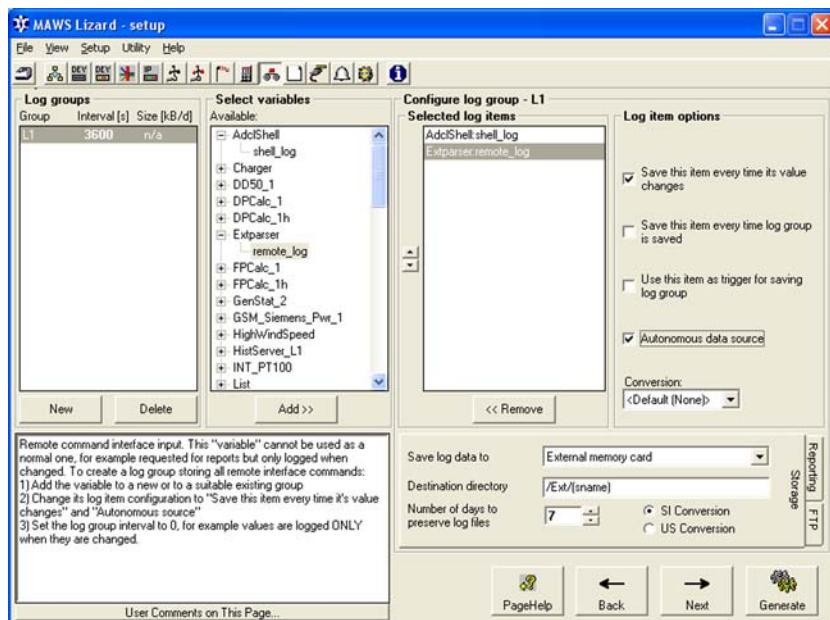

Figure 57 Logging View: Defining User Interaction Log
1. Create a new log group as shown in Figure 57 on page 134. Do not include other types of variables in this log group.